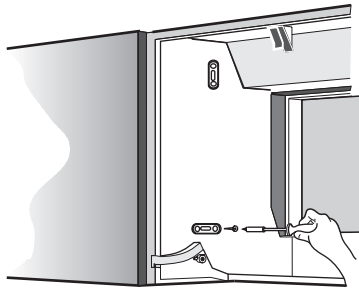

Fig. 9
- Push the extractor hood over the two hanging rails, then fix the hood from its inside to the cupboards sides with two screws (4,5 x 13) through the lower holes of the hood. **Fig. 9.**